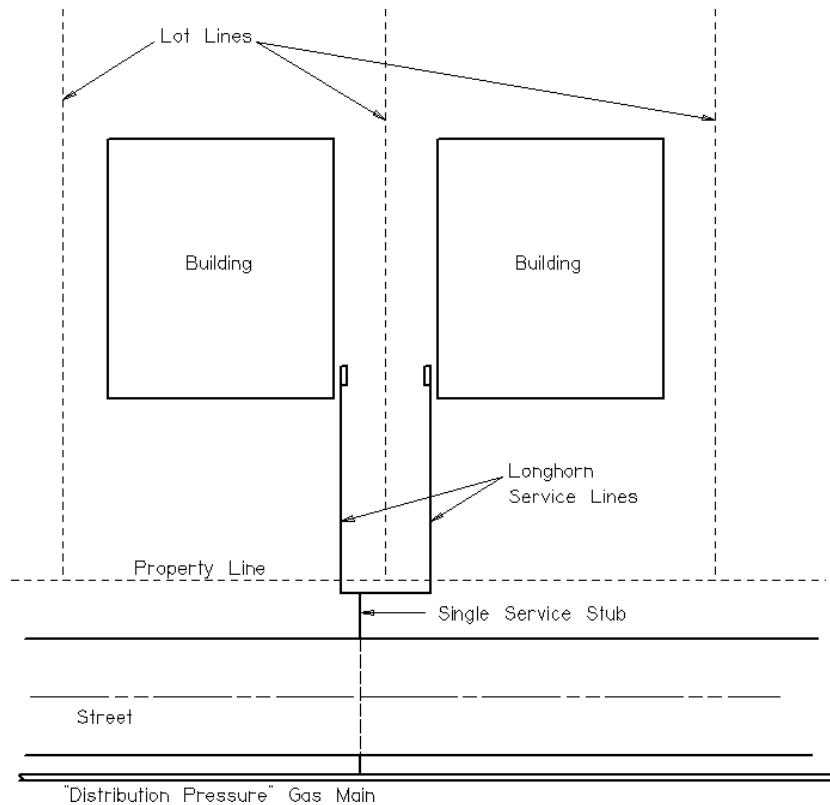

Figure 2.0 - Longhorn Gas Service – (ONLY ON NORMAL DISTRIBUTION (DP) SYSTEM)
4. One service stub may be used to serve 2 adjacent customers connected to Distribution Pressure mains (< 10 psi) and are called "Longhorns" as shown in Figure 2.0 below. The "Longhorn" is considered a service, not a main. The service stub pipe diameter for "Longhorn" services shall be calculated based on the total connected customer load. This is not a standard installation, but a method used when field conditions, restoration costs, or other obstacles would otherwise prevent serving the prospective customer.